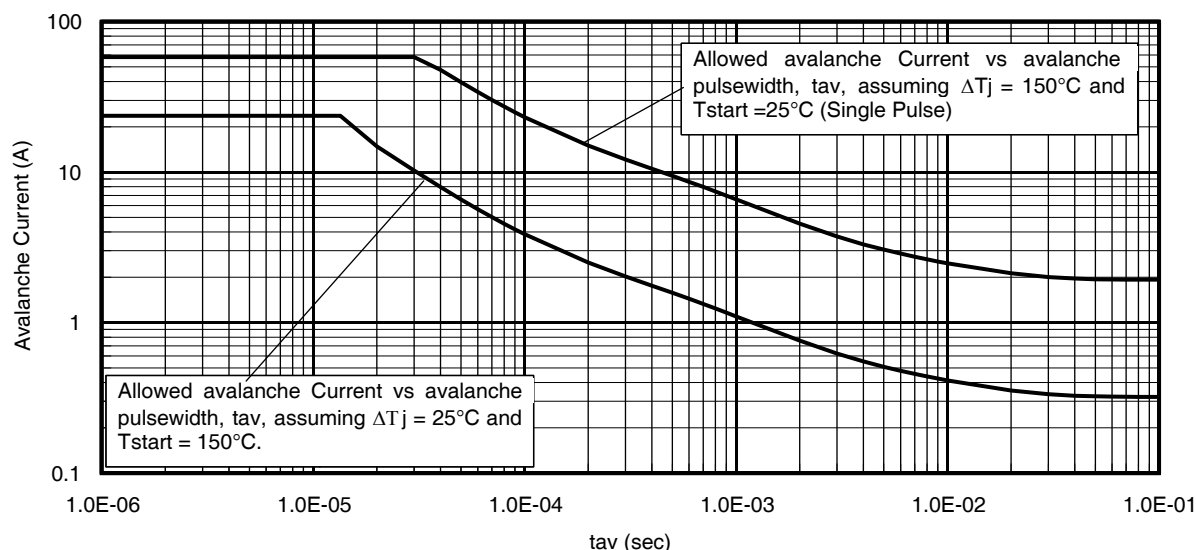

Fig 13. Typical Avalanche Current vs. Pulse Width
Notes on Repetitive Avalanche Curves , Figures 13, 14:
7. ΔT = Allowable rise in junction temperature, not to exceed T_{jmax} (assumed as 25°C in Figure 13, 14).